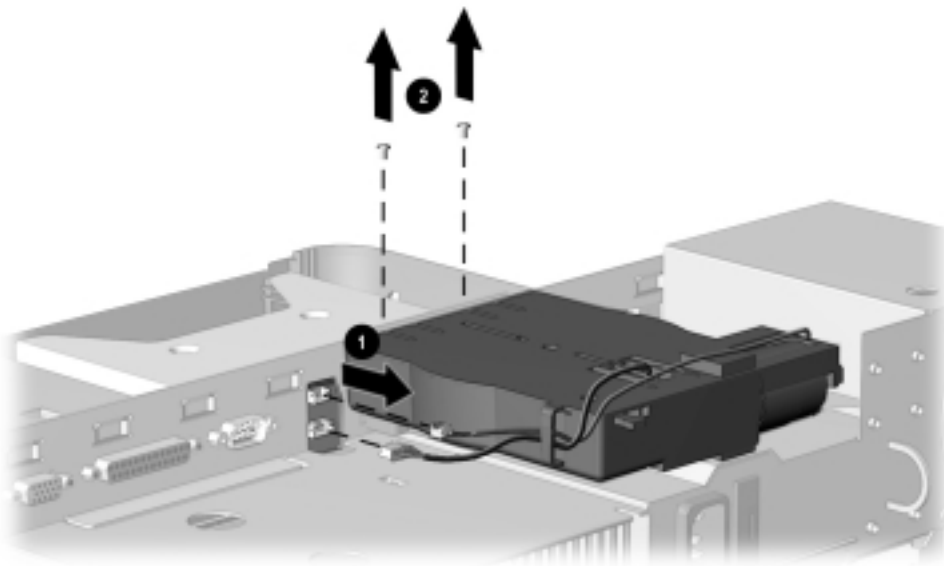

Figure 5-27. Disconnecting the Mechanism Assembly Cables and Removing the Mechanism Assembly Screws
5. Disconnect the two mechanism assembly cables from the backplane ❶.
6. Remove the two screws ❷ that secure the mechanism assembly to the backplane (Figure 5-27).